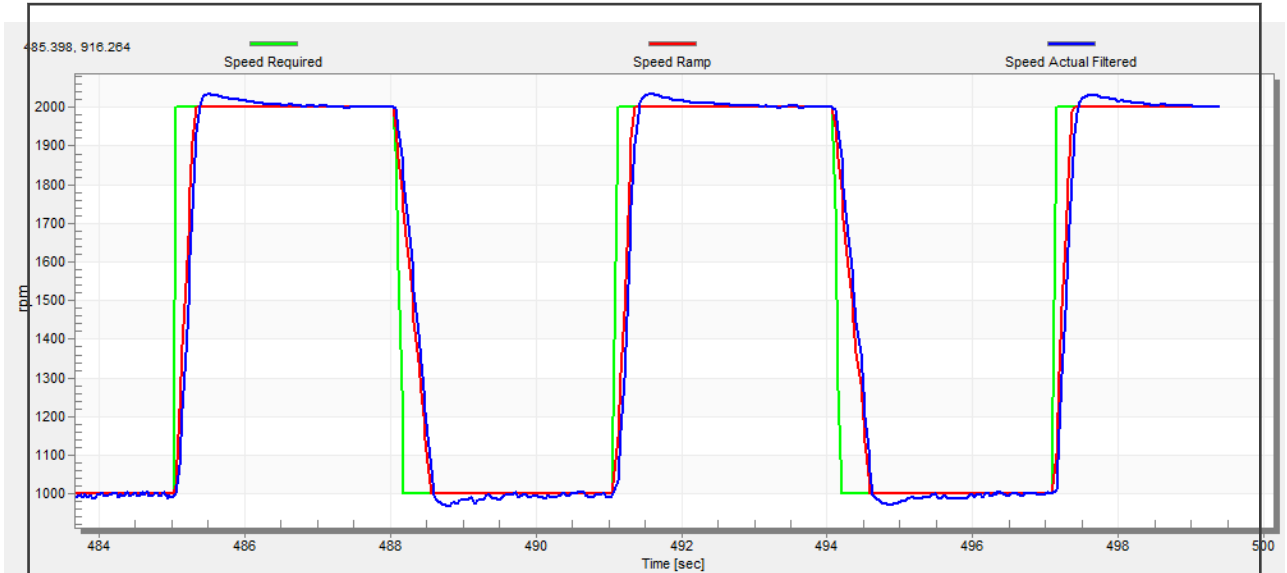

Figure 30. Speed Controller Response—speed loop response with a small overshoot
- The speed loop response has a small overshoot, and the “Speed Actual Filtered” settling time is sufficient. Such response can be considered optimal (see Figure 30).